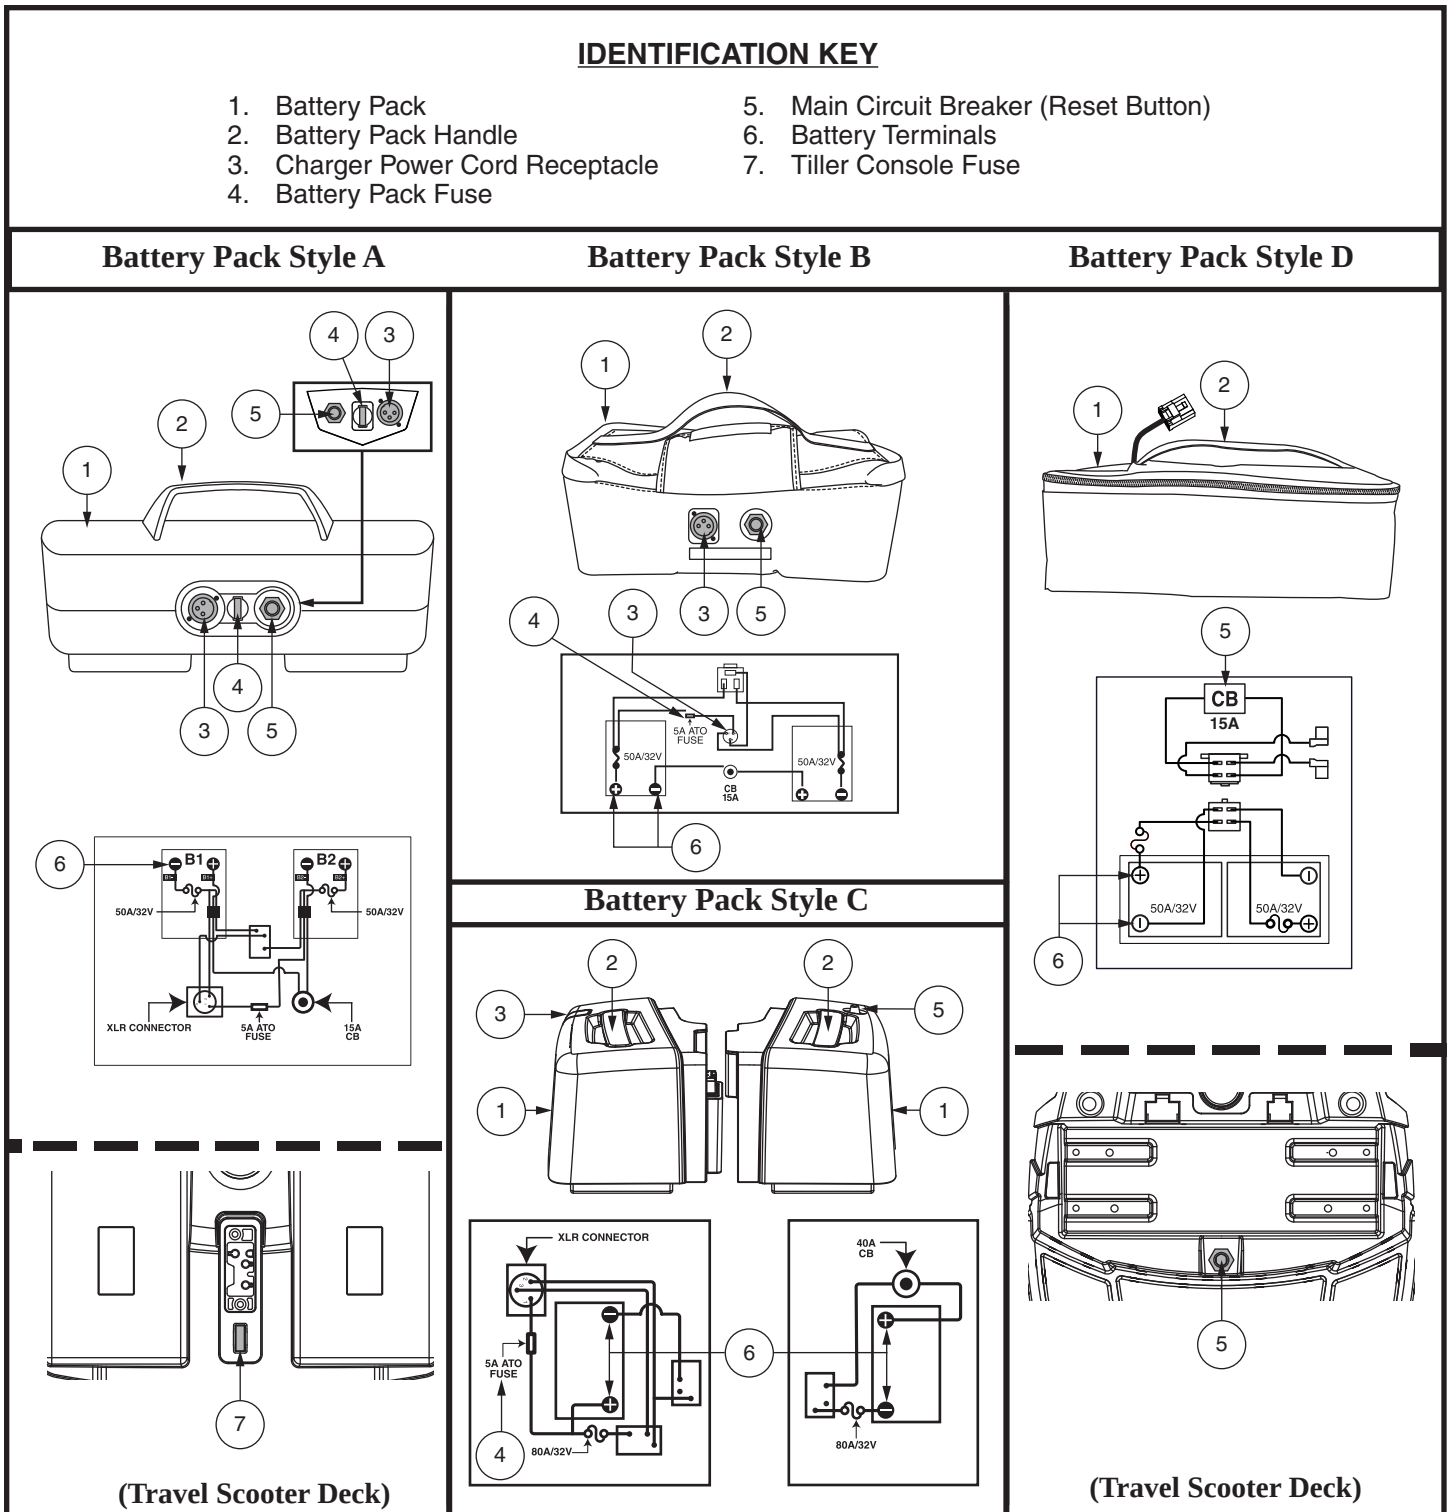

Figure 9. Battery Pack
When the voltage in your Travel Scooter's batteries becomes low or the Travel Scooter is heavily strained because of excessive loads or steep inclines, the main circuit breaker may trip to protect the motor and electronics from damage. **See figure 9.**
Your Travel Scooter is equipped with an innovative, easy-to-remove battery pack. A handle on the top of the battery pack makes it easy to lift the pack off of the Travel Scooter with one hand. The battery pack contains two rechargeable batteries, and may contain the charger power cord receptacle, the main circuit breaker (reset button), and the battery pack fuse. See figures 9 and 10.
The fuse located under the battery pack protects the tiller console electronics. See figure 9. In the event any component of the tiller console is not responding, check this fuse. See VII. "Basic Troubleshooting" for fuse replacement instructions.
- Ensure that the fuse on the battery pack is in working condition. **See figures 9 and 10.**